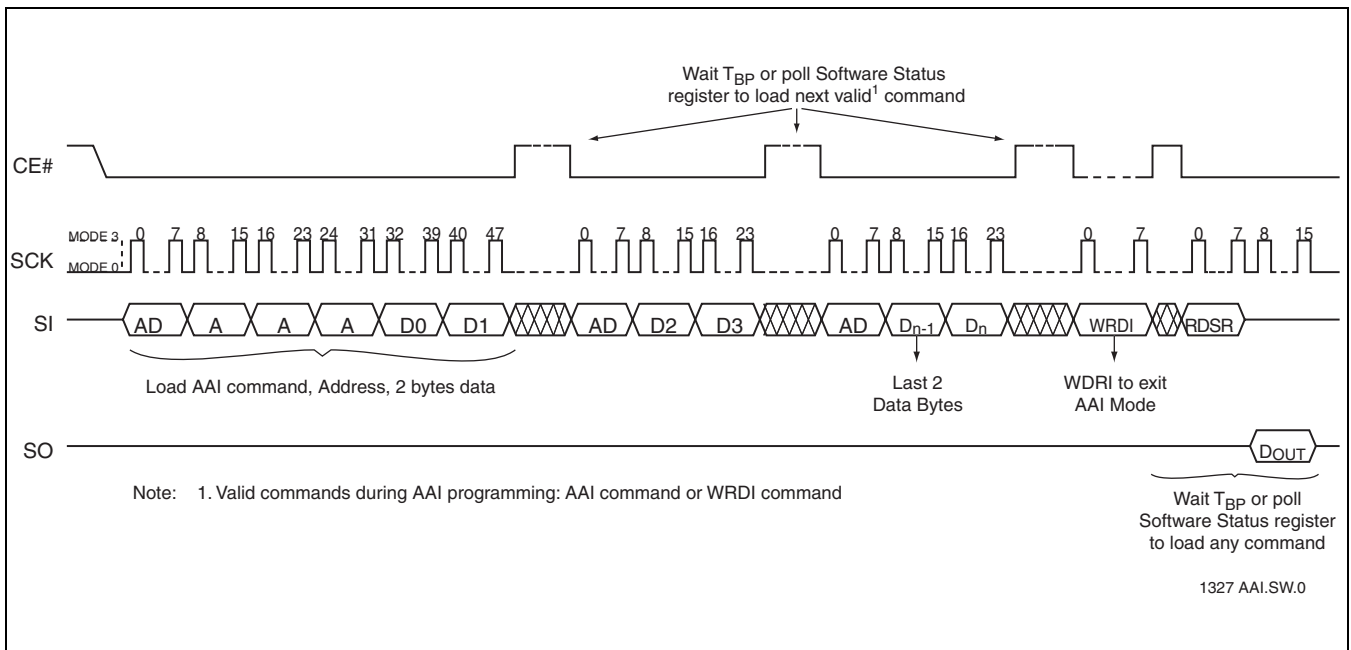

**FIGURE 9: Disable SO as Hardware RY/BY# during AAI Programming**
The 8-bit command, 80H, prevents the Serial Output (SO) pin from outputting Busy status during AAI-Word-program operation and re-configures SO as an output pin. The device can only accept the 80H command when the device is not in AAI mode. Once SO is an output pin, in AAI mode the device can accept both RDSR instruction for polling and Software Status Register data outputs through the SO pin. This is shown in Figure 9.